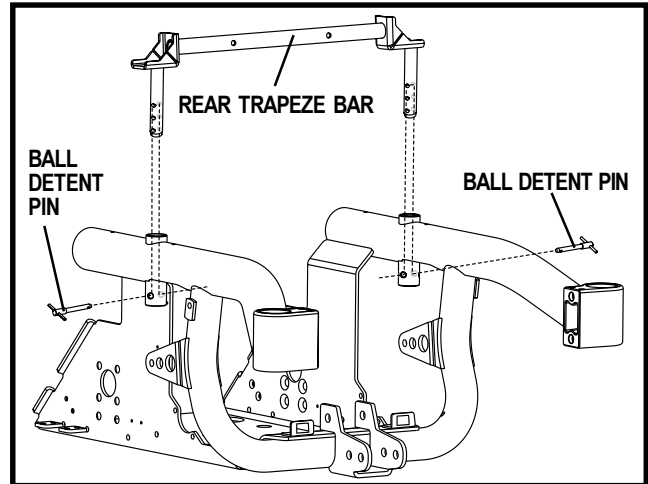

Figure 10. Rear Trapeze Bar Adjustment
7. Remove the ball detent pins from the rear trapeze bar. See figure 10.